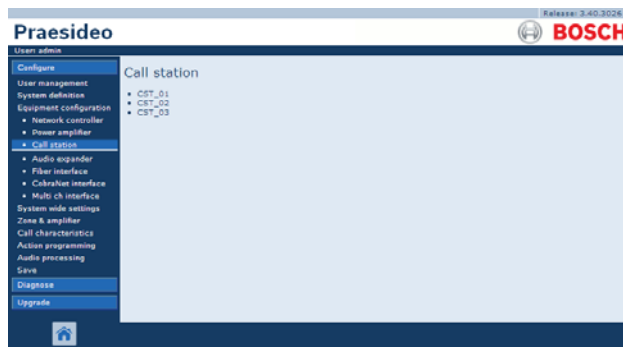

figure 43.21: Configure call station, step 1
- 1 Go to *Configure > Equipment configuration > Call station*. A screen similar to the one in figure 43.21 appears in the main frame of the web interface.